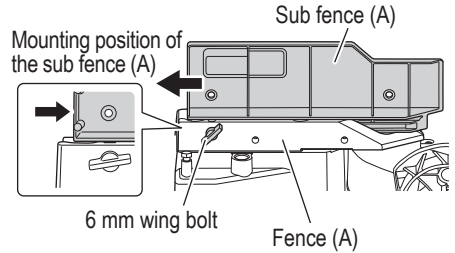

Fig. 19
4. Confirmation for use of sub fence (A)
When right bevel angle cutting, loosen the 6 mm wing bolt, then slide the sub fence (A) outward and remove it as shown in Fig. 19. Failure to do so may result in the main body or saw blade coming into contact with the sub fence (A) and causing injury.
In the case of direct angle cutting and left bevel angle cutting, slide inward to the position where the sub fence (A) hits, and secure it with 6 mm wing bolt. (as shown in Fig. 19)